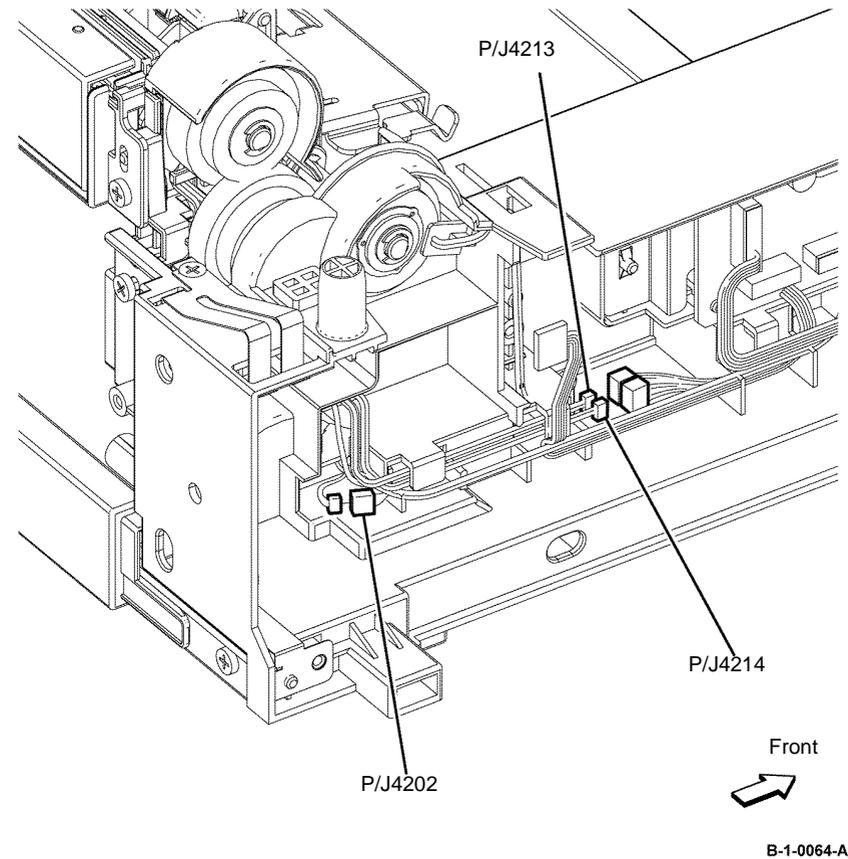

Figure 1 Option feeder relay disconnect
5. Disconnect PJ4202, PJ4213 and PJ4214 from the option feeder, Figure 1.